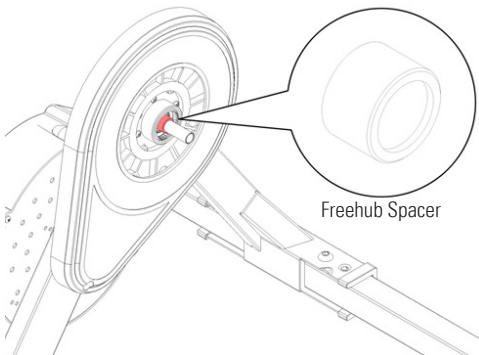

Figure 3
4. Check the freehub spacer remains on the spindle. See figure 3.